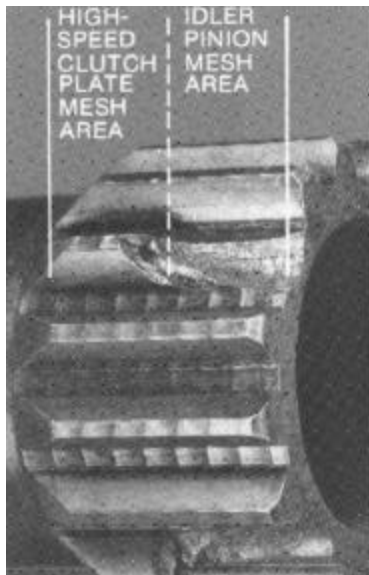

**Figure 65 Pitting and Spalling**
1. Gear and pinion teeth pitted and spalled. This is generally caused by continuous overloading which breaks down the lubrication film and pitting occurs or contaminated lube. The pitting starts below the tooth centerline then works its way above the centerline. Continued operation causes flakes of metal to break off until spalling occurs (Figure 65 and Figure 66).